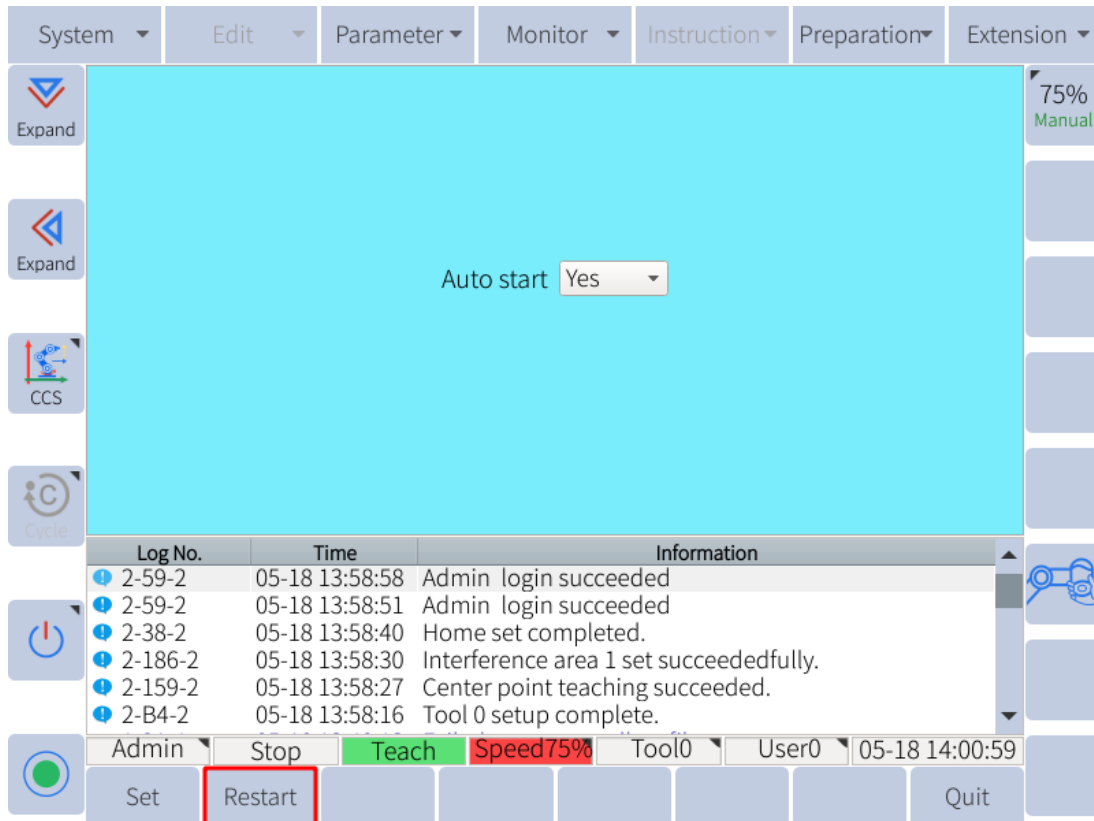

Figure 11-2 : VNC setting page
3. Click “Restart” to start VNC, as shown in **Figure 11-2** .